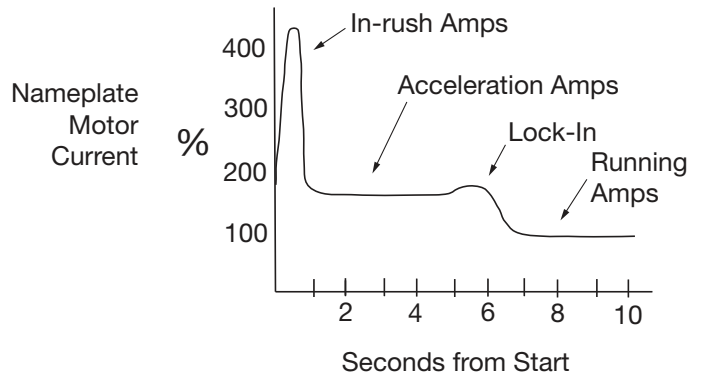

Figure 2 - Typical Motor Current vs. Time OPERATION
4. Push start button. Observe motor current during load acceleration and number of seconds required to reach full speed (Fig. 2).